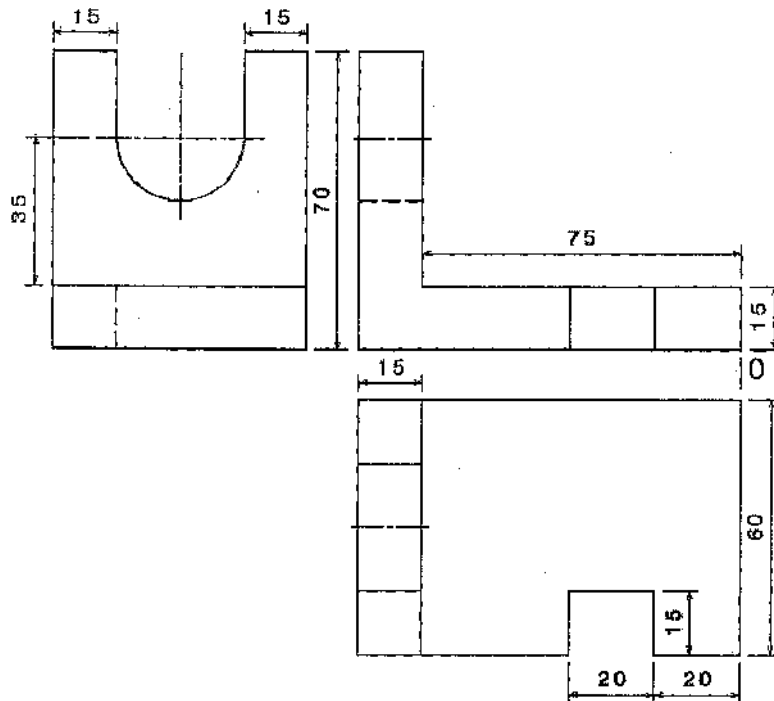

Figure 3
7. Figure 3 shows front view, top view and end view of a bracket. Draw isometric view and show overall dimensions.